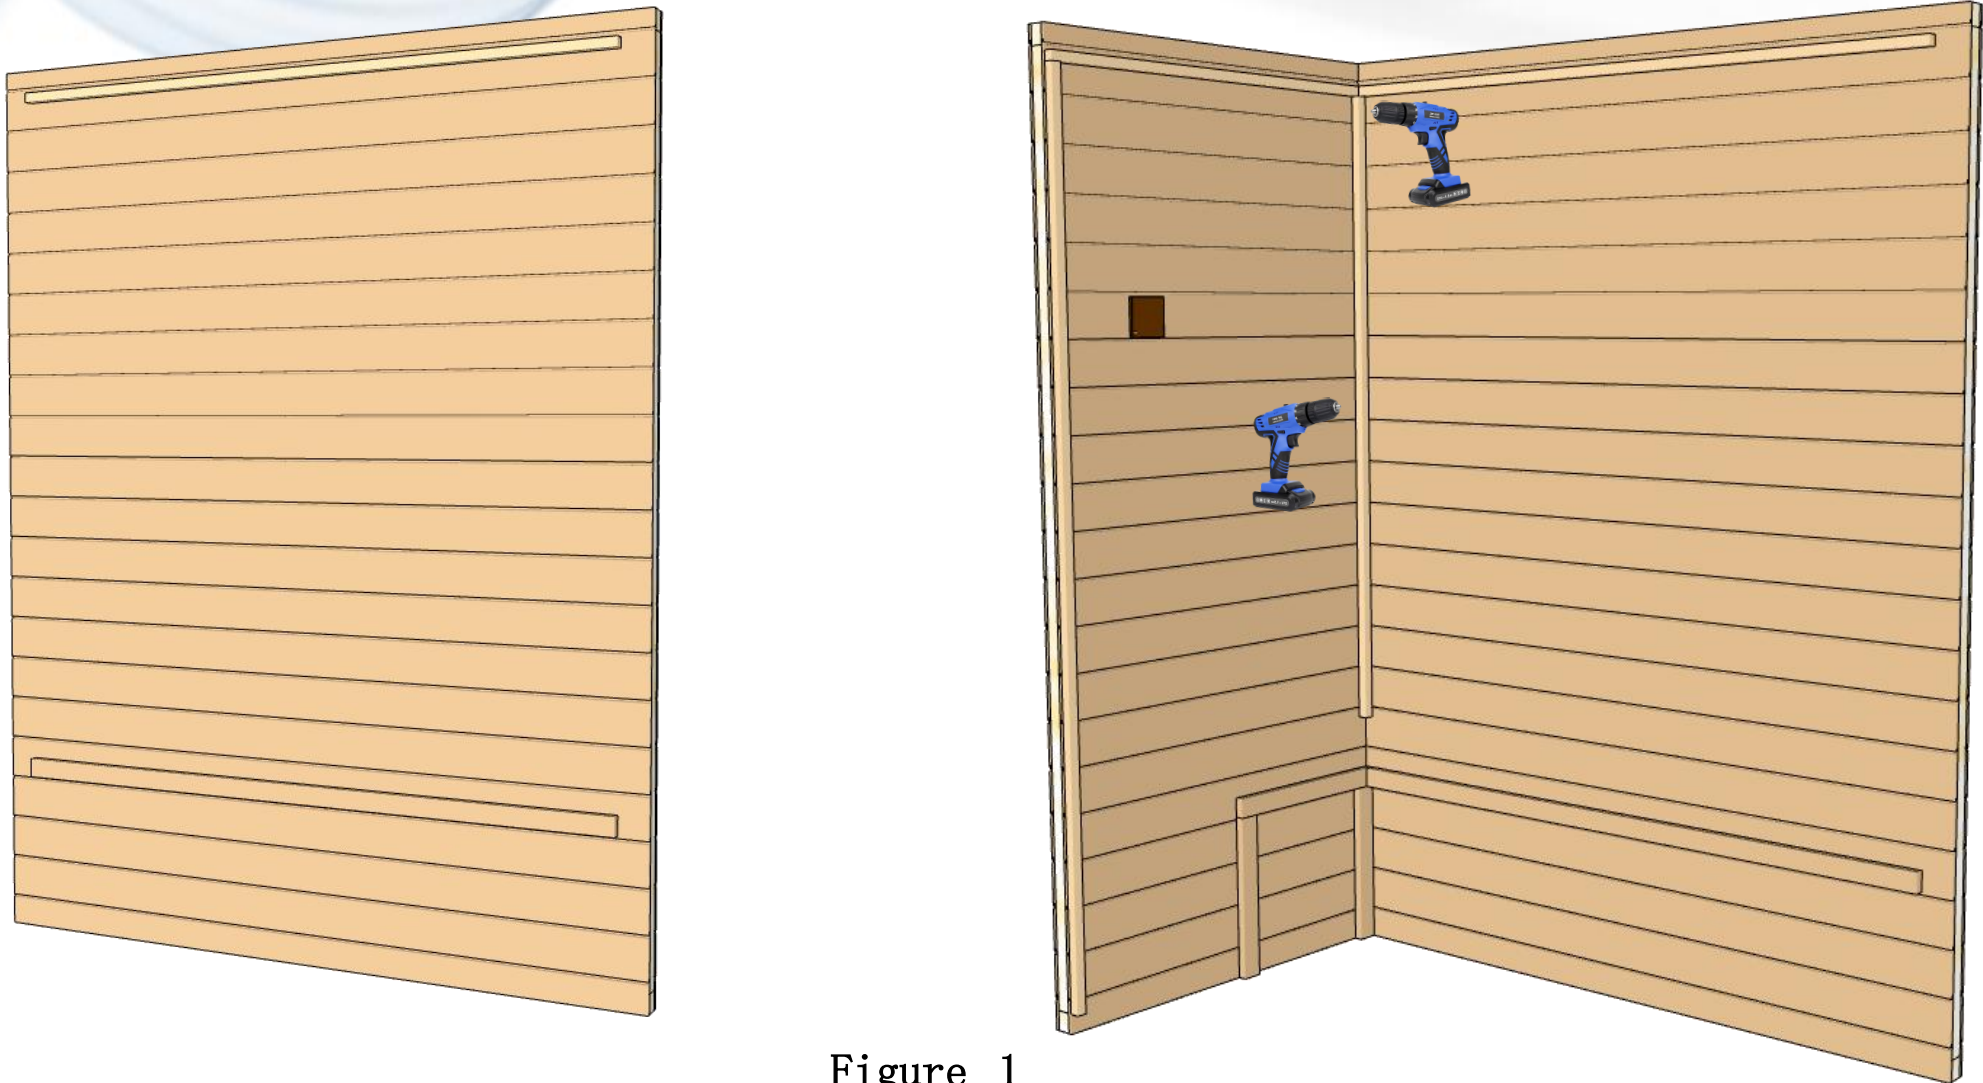

Figure 1
**Step 1:** As shown in Figure 1, place the rear wall panel vertically on a flat surface, align the left rear wall panel with the left wall panel for splicing, and secure them with screws at the screw hole positions on the splicing joint.